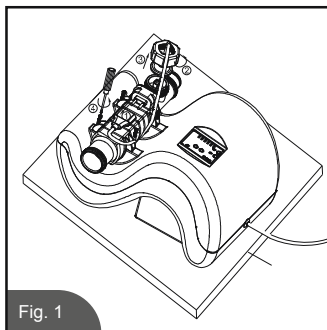

Fig. 1
1. Unplug the electrolytic cell line cord. Unscrew the locked nut of the flow sensor counter-clockwise and disconnect the flow sensor signal line from the flow sensor. Then screw out the four screws and put aside the electrolytic cell. (See Fig.1)